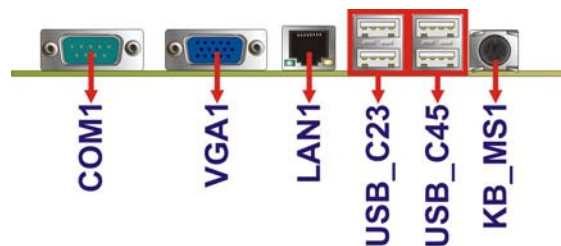

Figure 3-26: External Peripheral Interface Connector
CN Location: See **Figure 3-26**
- CN Location:** See Figure 3-26
- CN Location:** See **Figure 3-26**